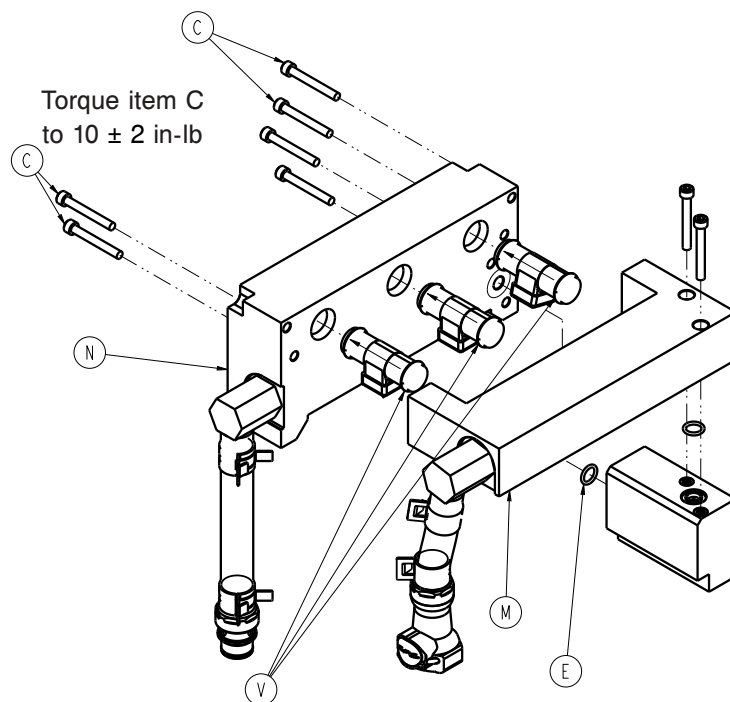

Figure 41 – Return manifold to supply manifold
- Using a 5/32" hex, remove and save the 6 screws (C) that secure the return manifold (N) to the supply manifold (M) (Figure 41).